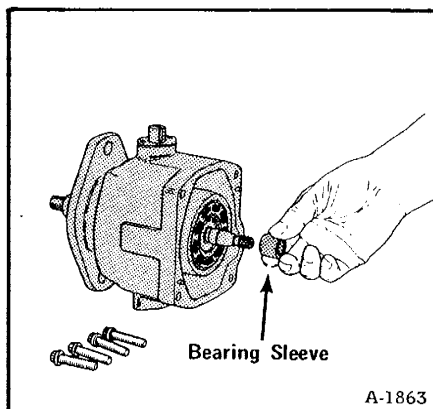

Fig. 3-19 Bearing Sleeve Removal
- (3) Slide the bearing sleeve off the shaft (Fig. 3-19).
- (4) Carefully remove the rotating group.